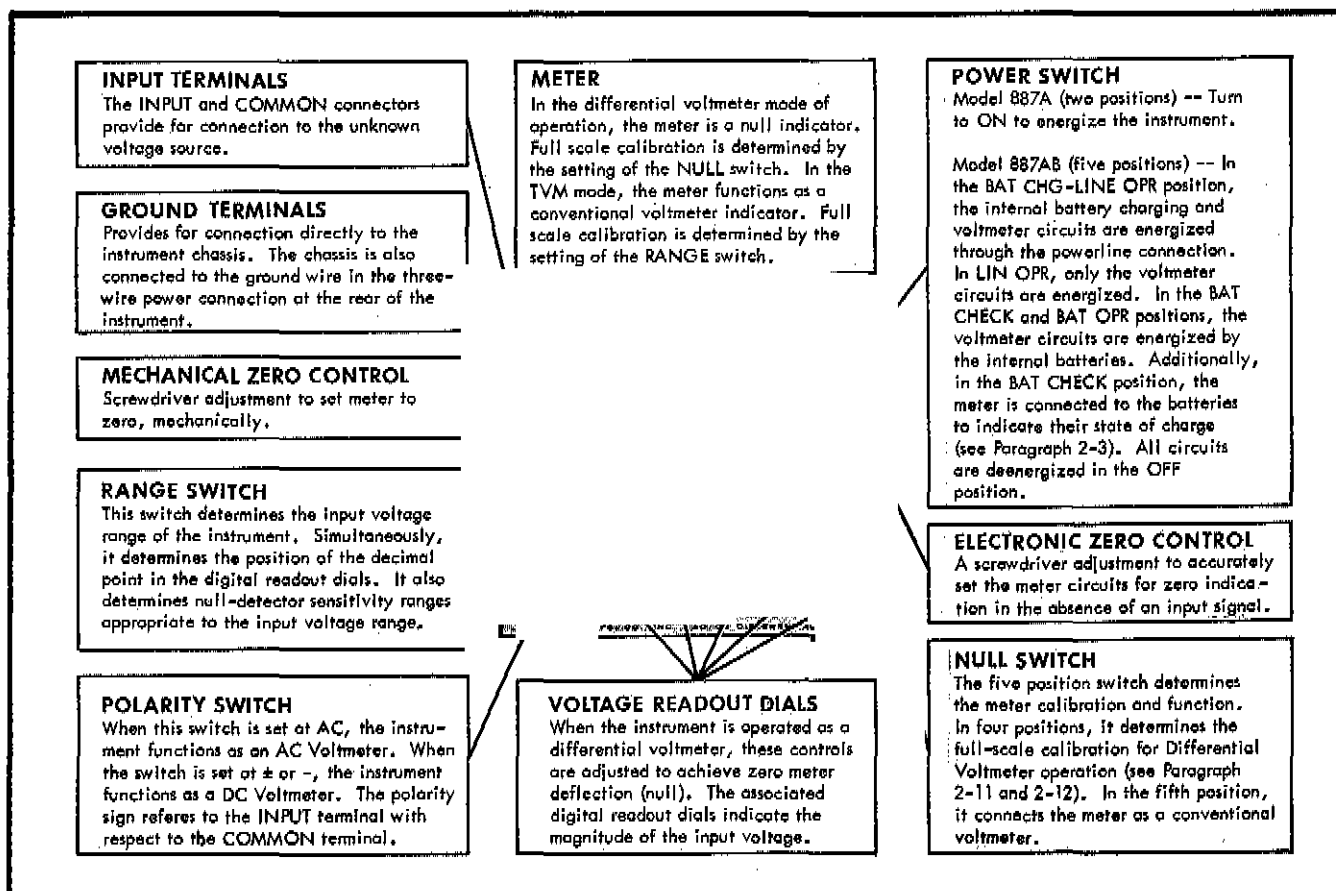

Figure 2-1. LOCATION AND FUNCTION OF FRONT PANEL CONTROLS
2-2. The functions of the front-and rear-panel controls are briefly described in Figures 2-1 and 2-2. Detailed operational procedures are explained in the paragraphs that follow.
- a. With the input power disconnected for at least three minutes, set the meter needle to zero with the mechanical zero control (see Figure 2-1).